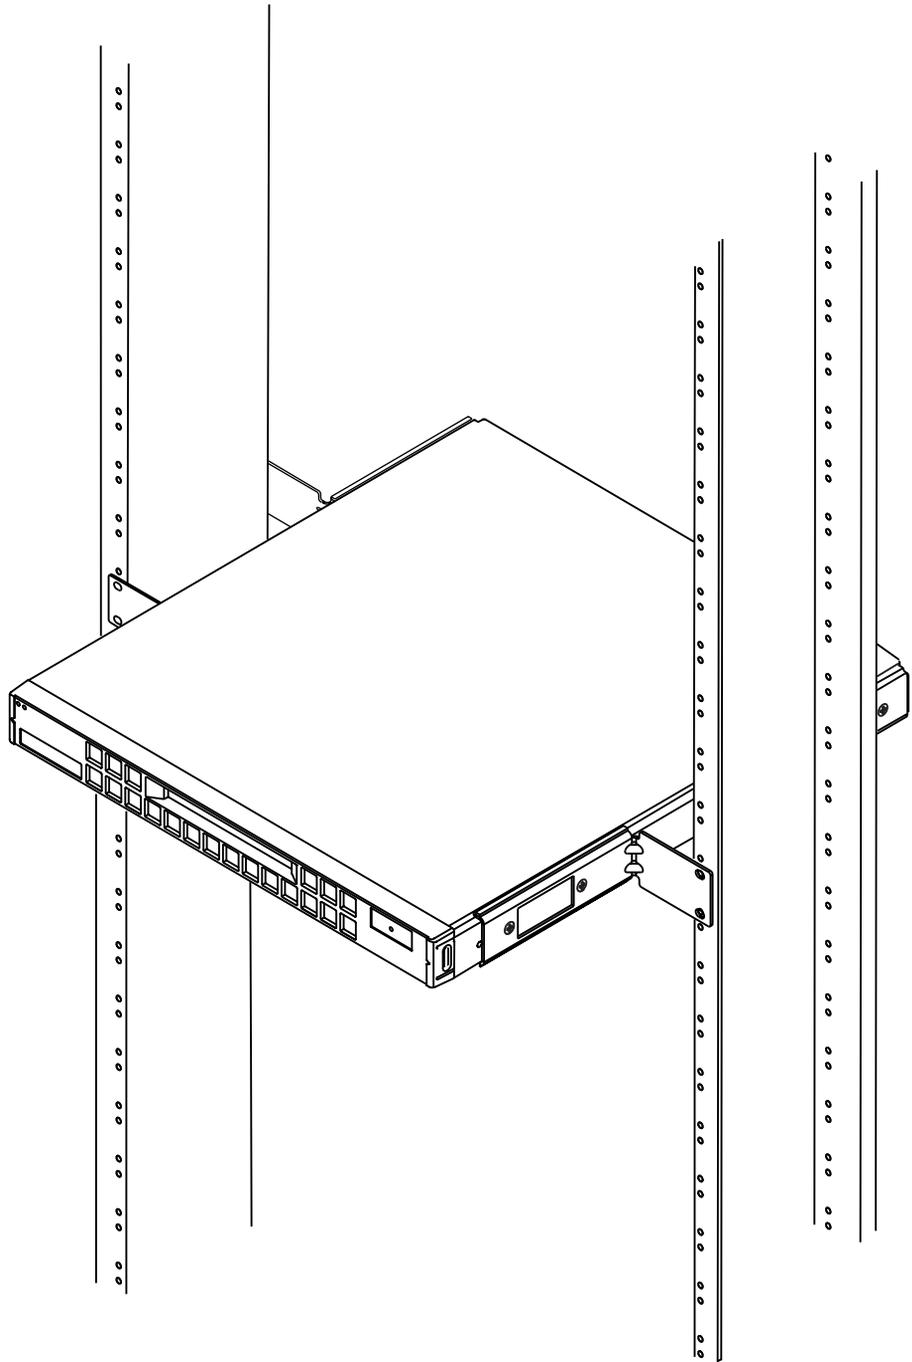

FIGURE 5-14 The Netra t1 Installed in a Two-Post Rack
5. **Secure the rear brackets to the rack in the appropriate place (see FIGURE 5-14).**